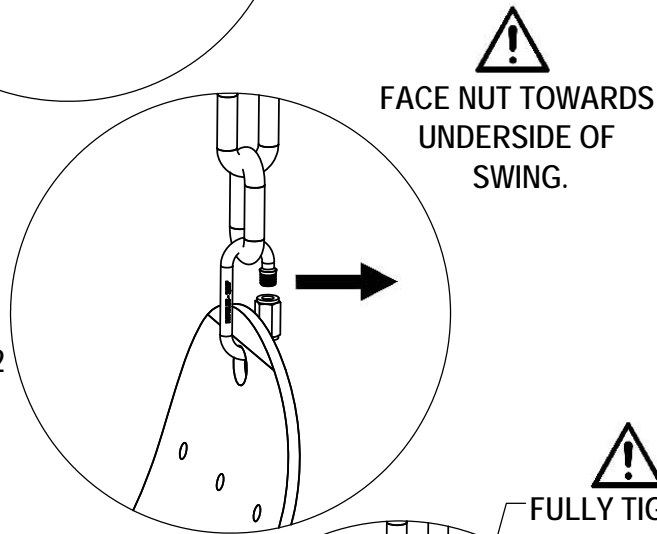

FIG. 12.2
2. PLACE THE QUICK CLIP THROUGH THE GROMMET OF THE SWING. (FIG 12.2)